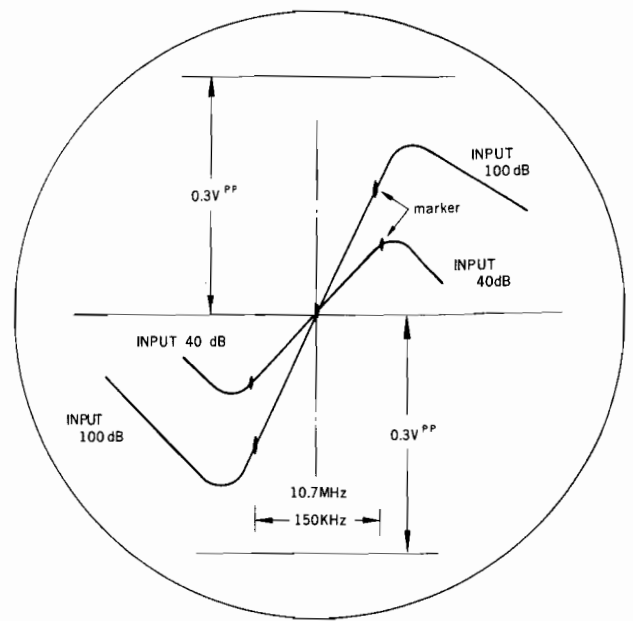

Fig. 5
Adjustment of cores of FM-IF (10.7 MHz) transformers Adjust with 40 dB (100  $\mu$ V) output level of the Genescope. Adjust the upper and lower cores of T-601 to T-605 to obtain the wave form shown in Fig. 5 (A). Since this wave form adjustment affects the maximum sensitivity and distortion, make the linearity and peak wave-form value as high as possible. Then set the Genescope output level to 100 dB, and make sure that the waveform is symmetrical on both sides.